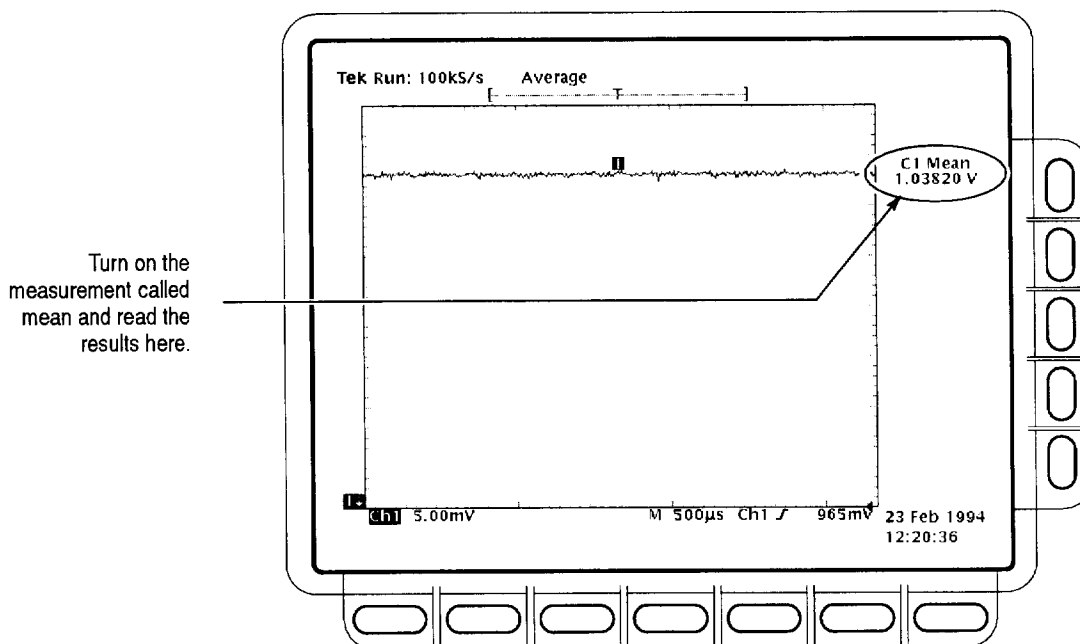

Figure 1–6: Measurement of DC accuracy at maximum offset and position
- e. *Measure the test signal:* Press **CLEAR MENU**. Read the measurement results at the **Mean** measurement readout. See Figure 1–6.